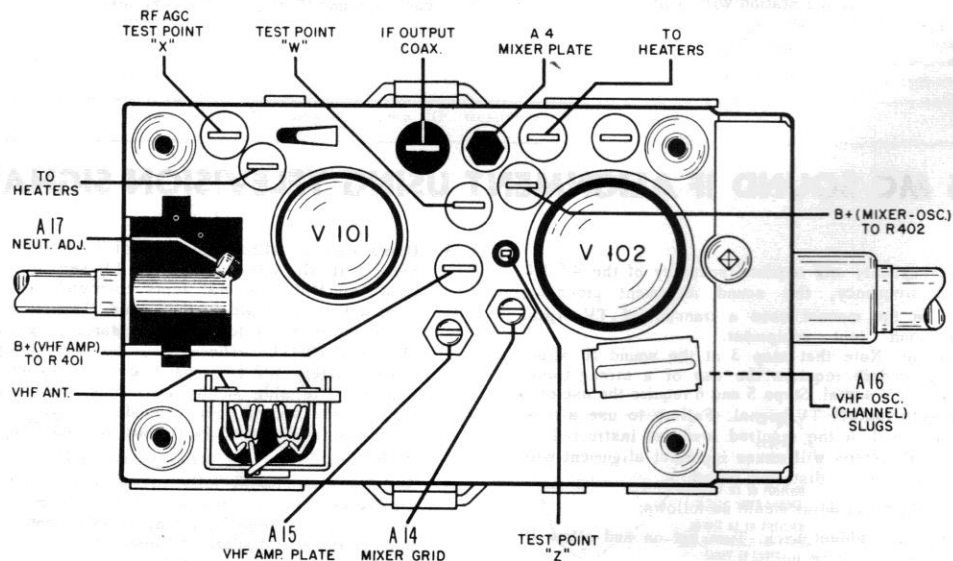

Fig. 10
- * Connect generator, high side to test point W on tuner. Connect low side to tuner chassis. See figure 10.
- * See figure 10 for adjustment locations and identification.